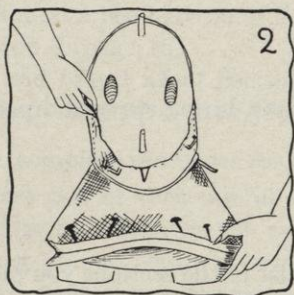

FIG. 2.
- c. If the straw does not lie perfectly flat on the block, pull the fullness up and out from under the cord at the headsize (see Figure 2).